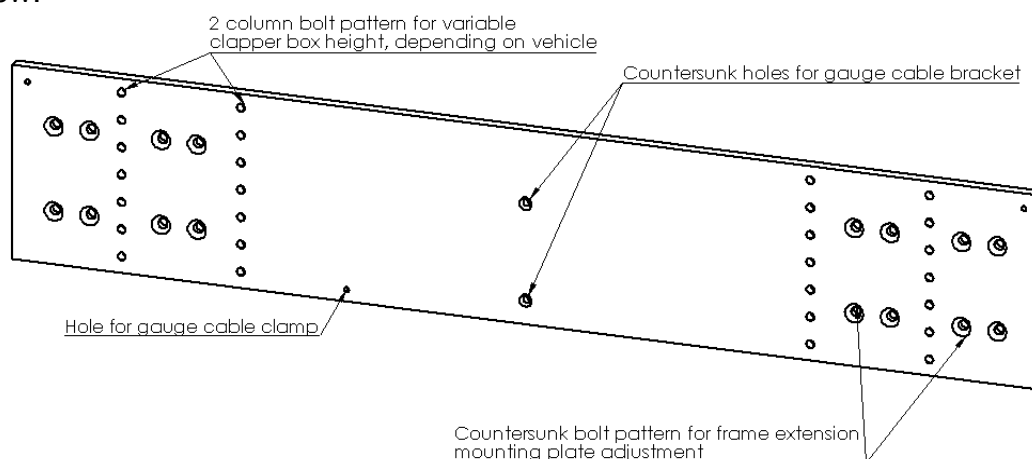

Figure 8 - Gauge Mounting Plate
1. The mounting plate is the foundation for the gauge system and is mounted to the frame extension plates via the countersunk mounting holes described in Figure 8 below.